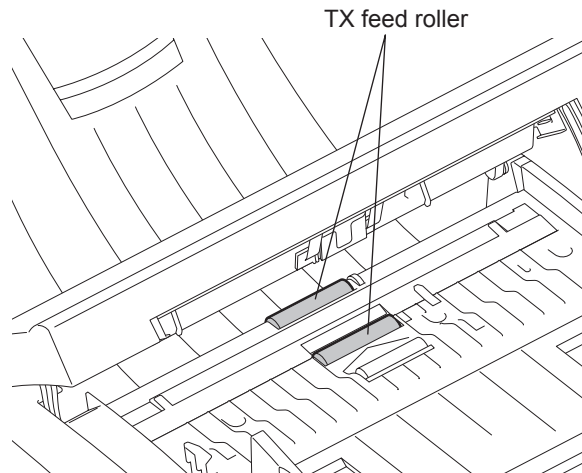

Fig. 10-6
- 5) TX feed roller (P.10-6 "Fig. 10-6")